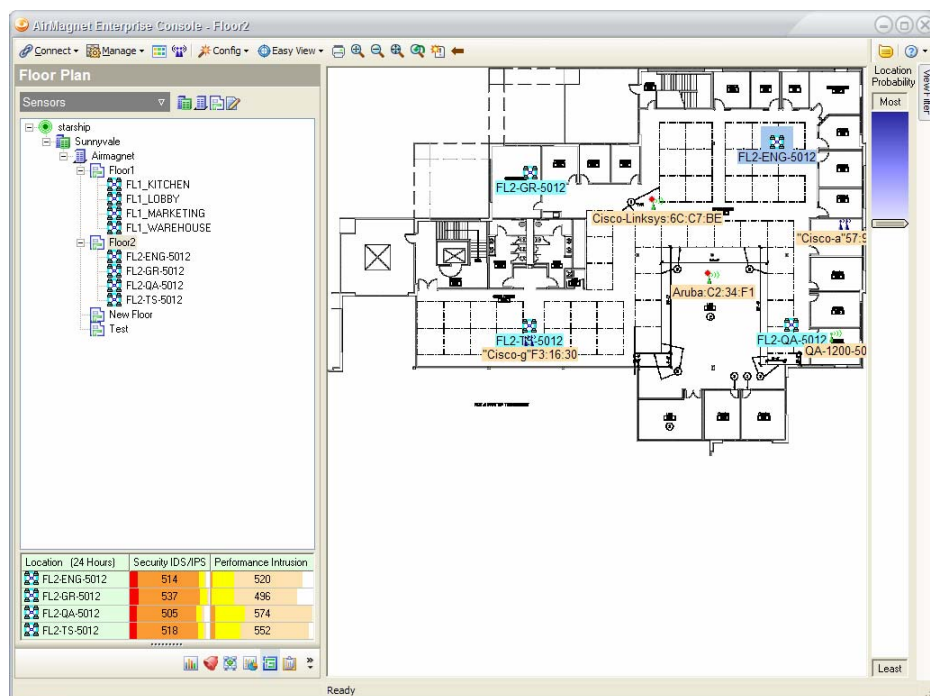

Figure 10-10: Rogue APs Displayed
- 3) Click Apply. The Floor Plan screen refreshes, displaying only Rogue APs on the network. See Figure 10-10.
In Figure 10-10, two of the rogue APs displayed have a red dot on them. This indicates that the APs have triggered alarms on the Enterprise network.